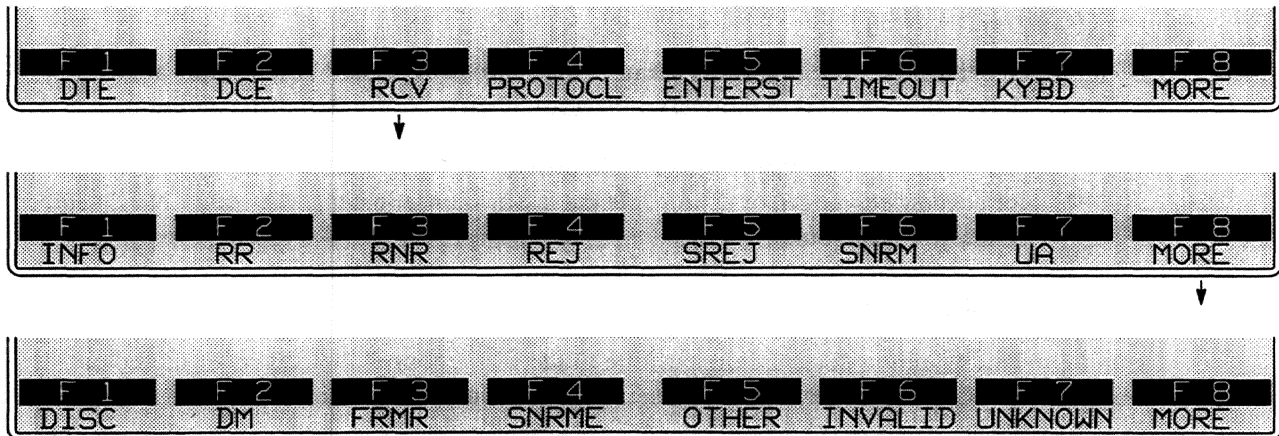

Figure 37-15 *INVALID* and *UNKNOWN* are frame types for *RCV* conditions.
4. *Type invalid.* RCV conditions can detect frames that are invalid “types”—the control field is missing, for example, or the I–field is missing in an I–frame. The Protocol Spreadsheet entry for this condition is RCV INVALID, and the softkey sequence is illustrated in Figure 37-15.
5. *Type unknown.* A frame may be valid in all respects but have a control field that indicates a nonstandard frame type. Such a frame may be matched by a *RCV UNKNOWN* condition (Figure 37-15).